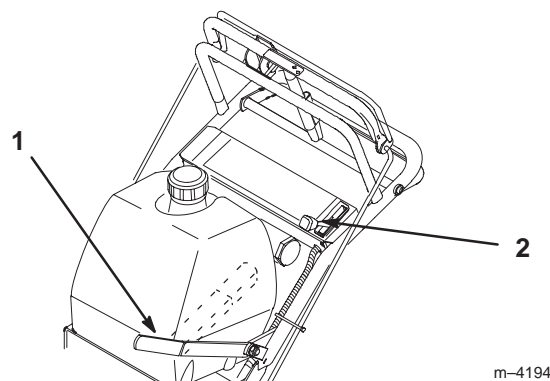

Figure 14
1. Move the throttle lever to “SLOW” (Fig. 14).
2. To stop the engine pull the throttle all the way back, past SLOW (Fig. 14).